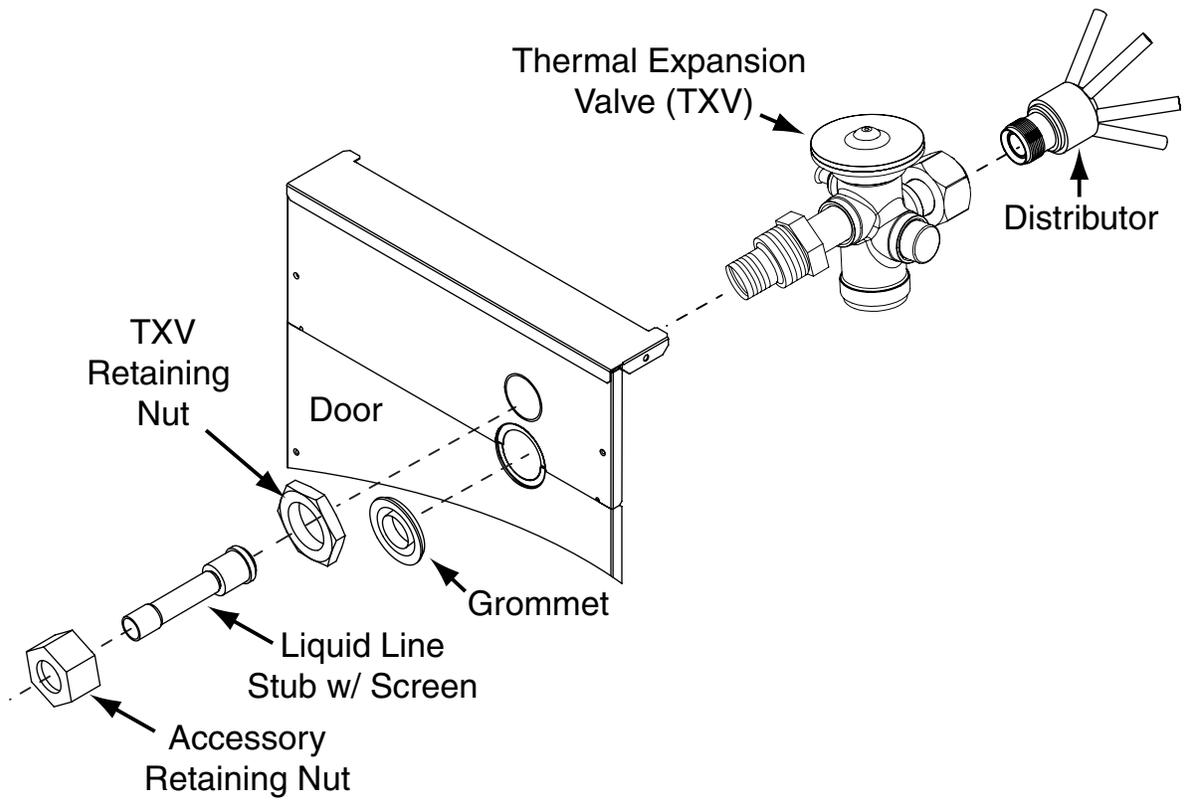

Figure 3. TXV Assembly
1. Install the TXV retaining nut onto the inlet end of the TXV. See Figure 3 \(page 6\).
4. Align the retaining nut on the TXV body and hand tighten both components. Mark a line on both bodies and then tighten an additional ¼ turn using two wrenches. See Figure 3. **NOTE:** The movement of the two lines will show how much the nut is tightened. If a torque wrench is used, tighten to 10-12 ft lbs or 14-16 Nm.